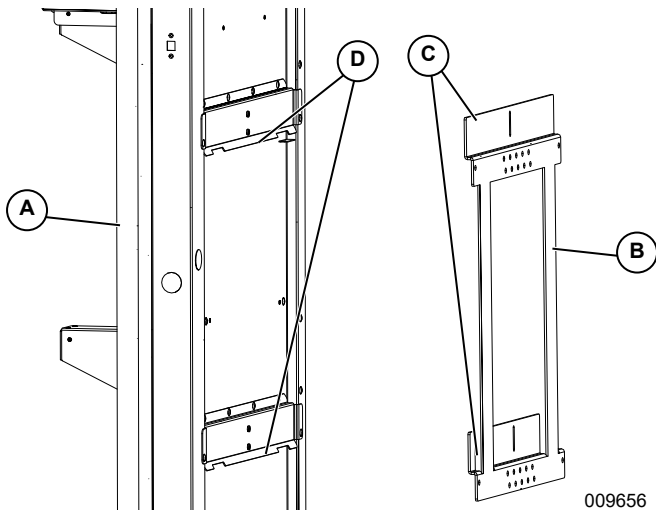

Figure 4-5. Mounting Bracket (1 of 2)
1. See **Figure 4-5**. Lift body (A) onto bracket (B). Keep body tight to the wall while lowering body onto bracket. Verify bracket tabs (C) hook into body pockets (D).